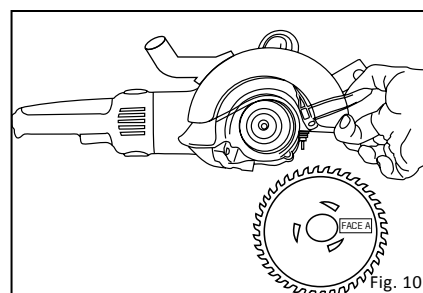

Fig. 10
2. Open lower guard and place "Face A" blade on saw and fit on the outer arbor shaft. (Fig. 10)